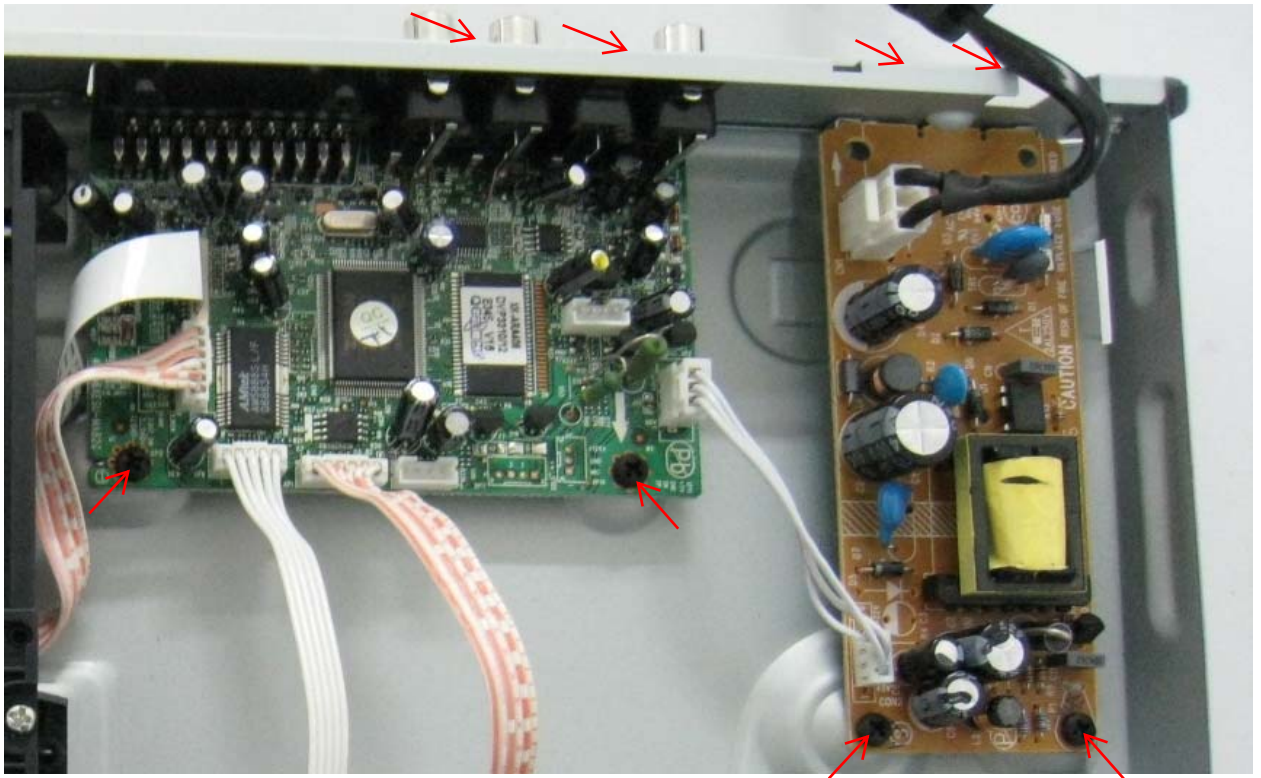

Figure 7
Step6: Dismantling Main Board, first disconnect the connector (XP2), and then remove 4 screws. (Figure 7)
Step7: Remove the 4 screws on Power Board to dismantle the Power Board. (Figure 7)